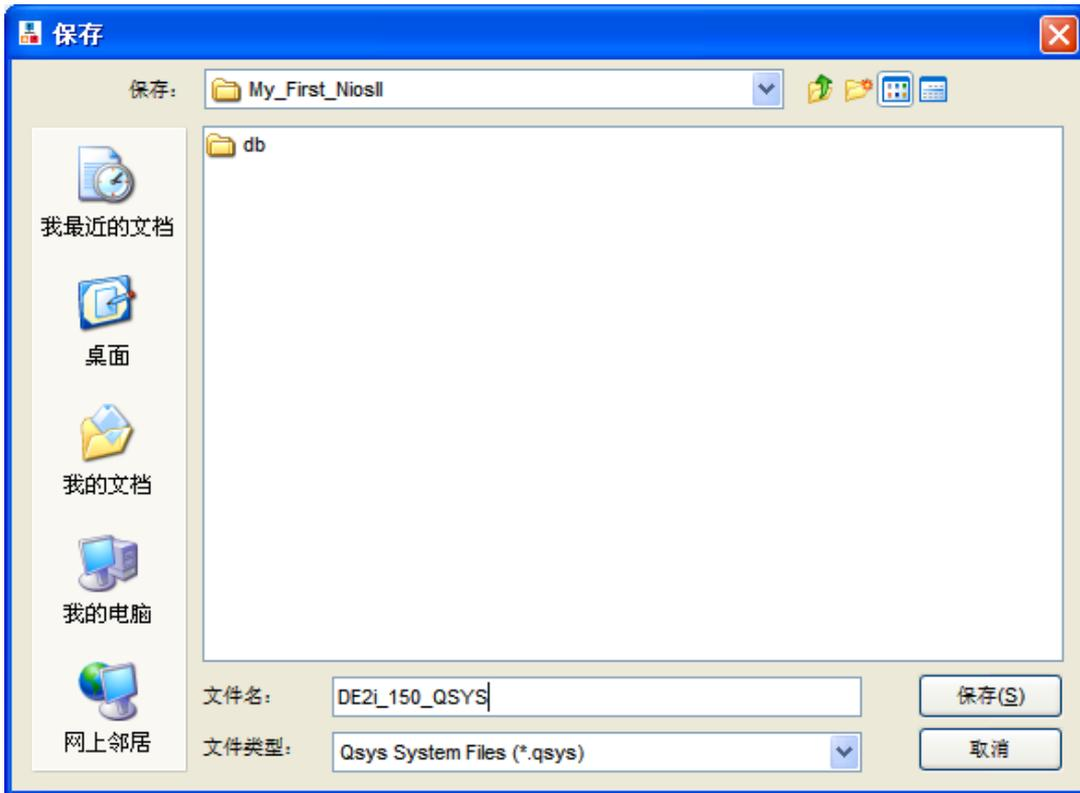
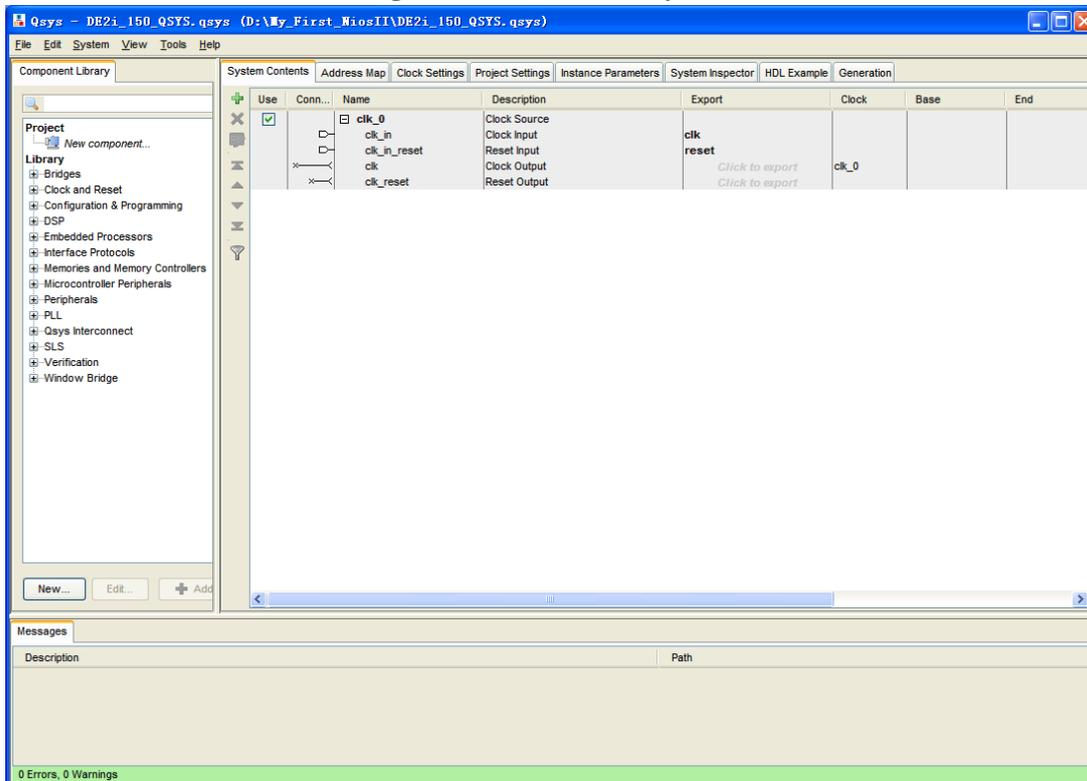

Figure 1-12 Rename System
Figure 1-13 A New System
7. Rename **System Name** as shown in Figure 1-12. Click **Save** and you will see a window as shown in Figure 1-13.